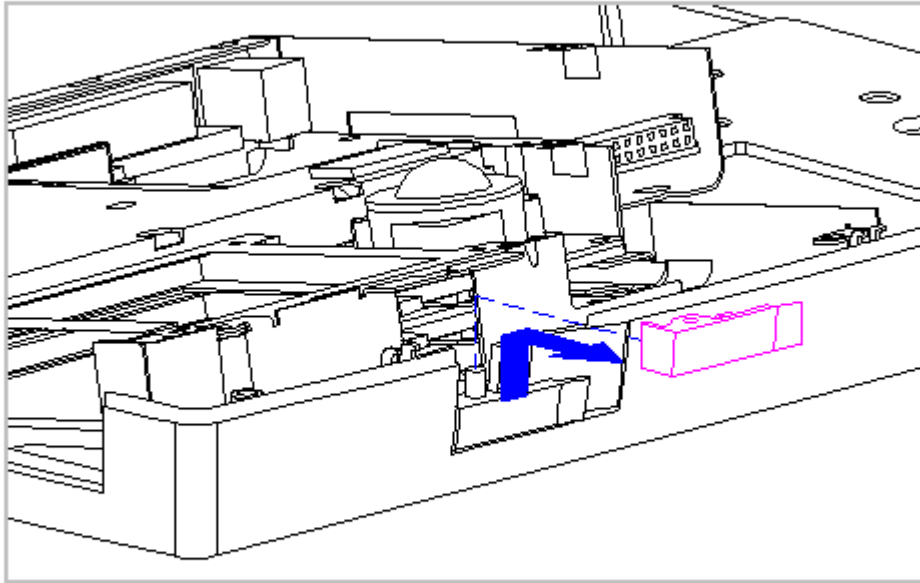

Figure 3-63. Removing the Top PC Card Ejection Lever (All Models)
3. Remove the top PC Card (PCMCIA) ejection lever (Figure 3-63).